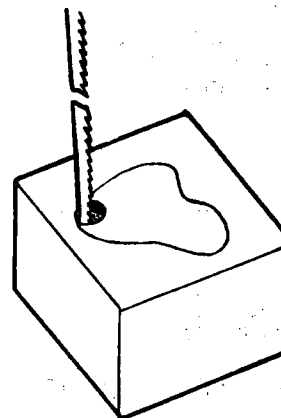

Fig. 3
- 2) With a closed cut (Fig. 3), the saw is cut, pushed through a previously made hole, and welded while on the machine.